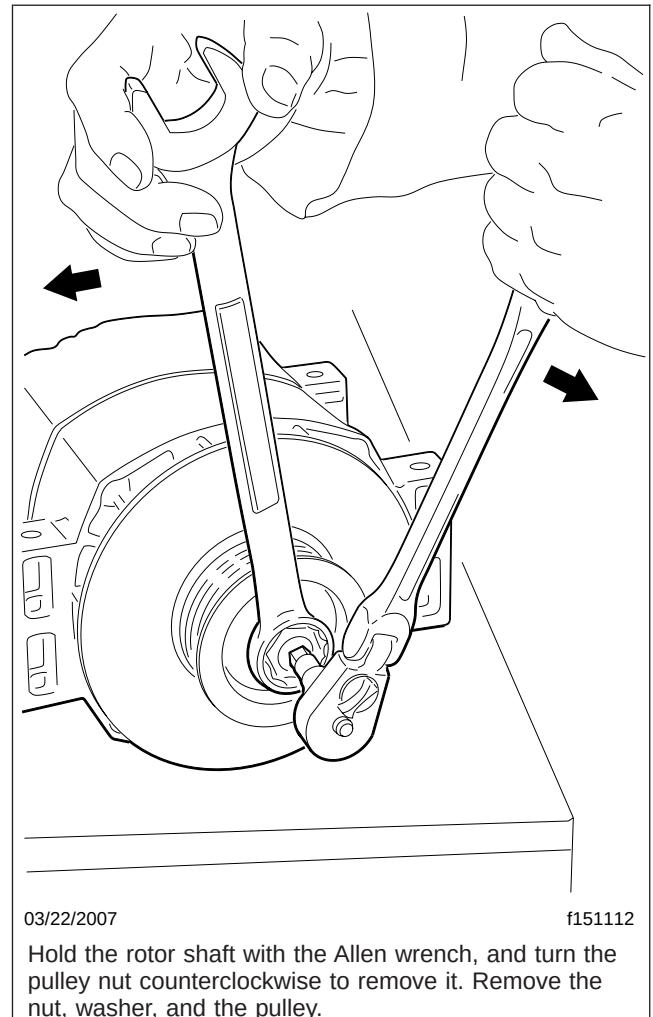

Fig. 1, Loosening a Delco Remy Alternator Pulley Nut
- 6.3 Hold the rotor shaft with the Allen wrench, and turn the pulley nut counterclockwise to remove it. See Fig. 1. Remove the nut, washer, and pulley.